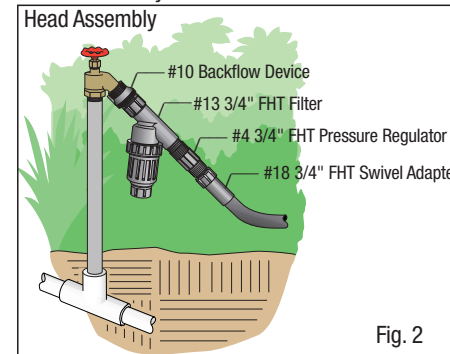
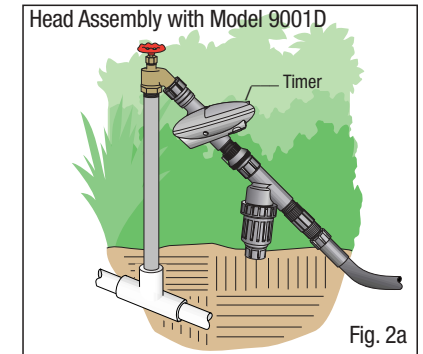

Fig. 2
Fig. 2a
**OPTION 1: BEGIN THE INSTALLATION BY CONNECTING TO AN OUTDOOR FAUCET.** First attach the #10 backflow device (if your faucet already has a brass backflow attached, #10 is not required). Then attach the #13 filter (or #12 fertilizer applicator with backflow device included), a #4 pressure regulator followed by the #18-3/4" swivel adapter (see figure 2). If you are planning to use a battery operated timer (model 9001 and 9001EZ), install the backflow device after the timer (see figure 2a). All these fittings have "hose" type threads and are sealed by a washer so they should be turned clockwise until they are "hand tight" only. Tightening with a wrench is not recommended and should not be necessary.